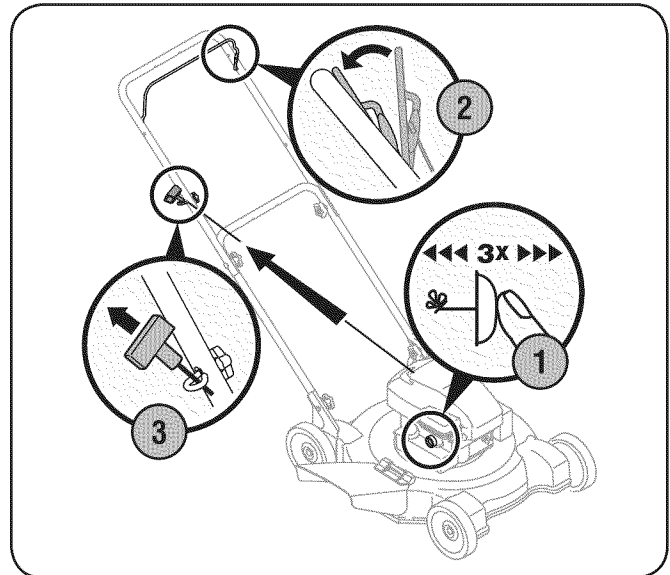

Figure 5-1
1. When starting the engine for the first time, push primer (if equipped) five times. For all future starts, push the primer three times. See Figure 5-1. Do not prime to restart a warm engine.
2. Standing behind the mower, squeeze the blade control against upper handle. See Figure 5-1.
3. Holding these two handles together firmly, grasp recoil starter handle and pull rope out with a rapid, continuous, full arm stroke. See Figure 5-1. Keeping a firm grip on the starter handle, let the rope rewind slowly. Repeat until engine cranks. Let the rope rewind each time slowly.